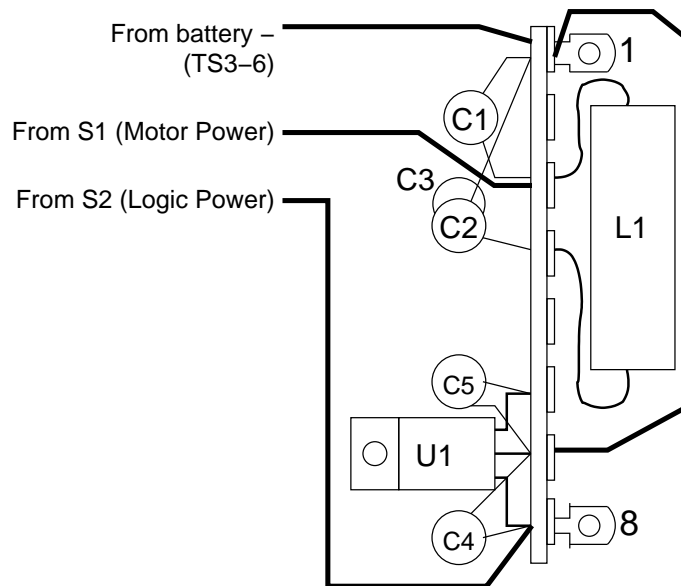

Figure 4: Terminal Strip 1, Detail
- Once the wiring is planned, mount and solder the capacitors onto terminal strip TS1, as shown in figure 4. Use the bottom holes in the terminal strip. The terminals require considerable heat to solder correctly.
- Mount and solder the three-terminal regulator U1 and inductor L1 onto TS1 as shown in figure 4.